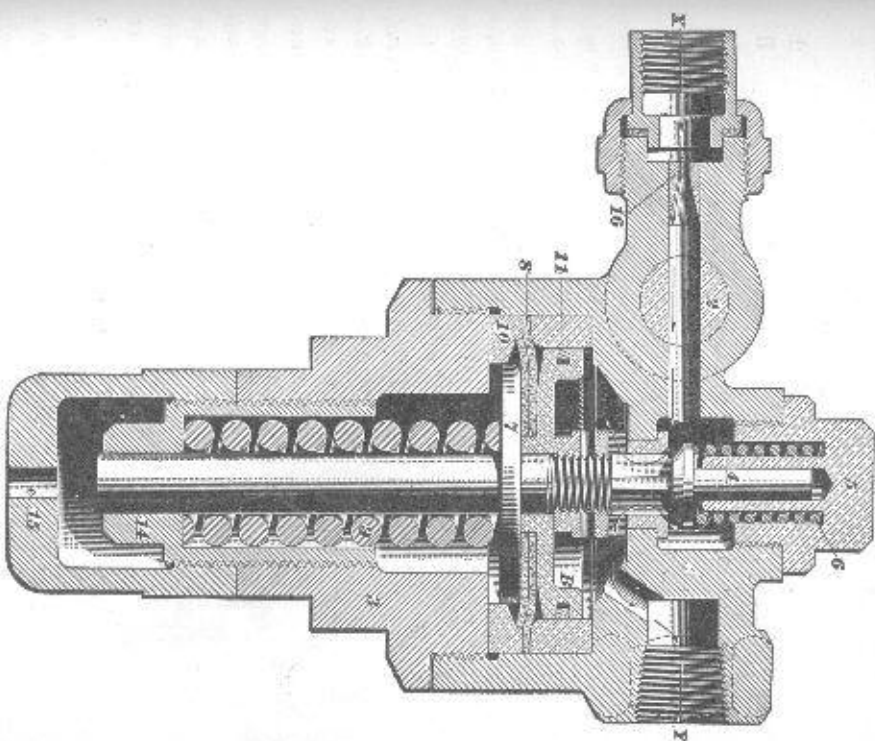

FIG. 5
4. The improved reducing valve is shown in Fig. 5; 16 is a choke plug that restricts the flow of air through the valve so that the reducing valve cannot supply air to the signal pipe faster than the air discharge valve can reduce the pressure; 2 is a plug cock that, in the position here shown, is allowing air to enter the reducing valve, but, when turned at right angles to its present position, cuts the valve out of service; 3 is the lower cap; 4, the supply valve; 5, the supply-valve cap nut; 6, the supply-valve spring; 7, the reducing-valve piston; 8, a rubber diaphragm consisting of two pieces of rubber; 9, the regulating spring; 10, the diaphragm ring; 11, the piston packing ring (which, together with the diaphragm, serves to prevent leakage of air past piston 7); 14, the regulating nut by means of which the tension of the spring 9 is adjusted; and 15, the check-nut. The passage *e* is to allow any air leaking past the piston 7 to escape to the atmosphere.
12. If no air passes into the signal pipe, first see whether the cocks on each side of the hose between the tender and train have been opened. If so, plug cock 2 may be closed, or the opening in plug 16 of the reducing valve, Fig. 5, may be stopped up with oil and dirt, or the lining in the hose may be loose and blocking the passage; or, if the weather is cold, the signal pipe on the engine or tender may be stopped up with ice, or the reducing valve may be frozen up.